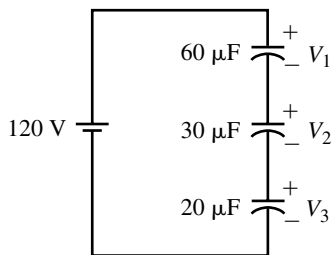

FIGURE 10–37
38. Use the voltage divider rule to find the voltage across each capacitor of Figure 10–37.
39. Repeat Problem 38 for the circuit of Figure 10–38.
40. For Figure 10–39, $V_x = 50\text{ V}$. Determine C_x and C_T .